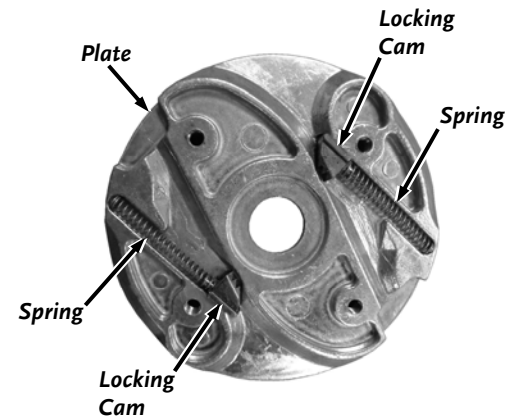

Figure 26
6. Reinstall the Springs and Locking Cams into the middle and bottom Plates (**Figure 26**).